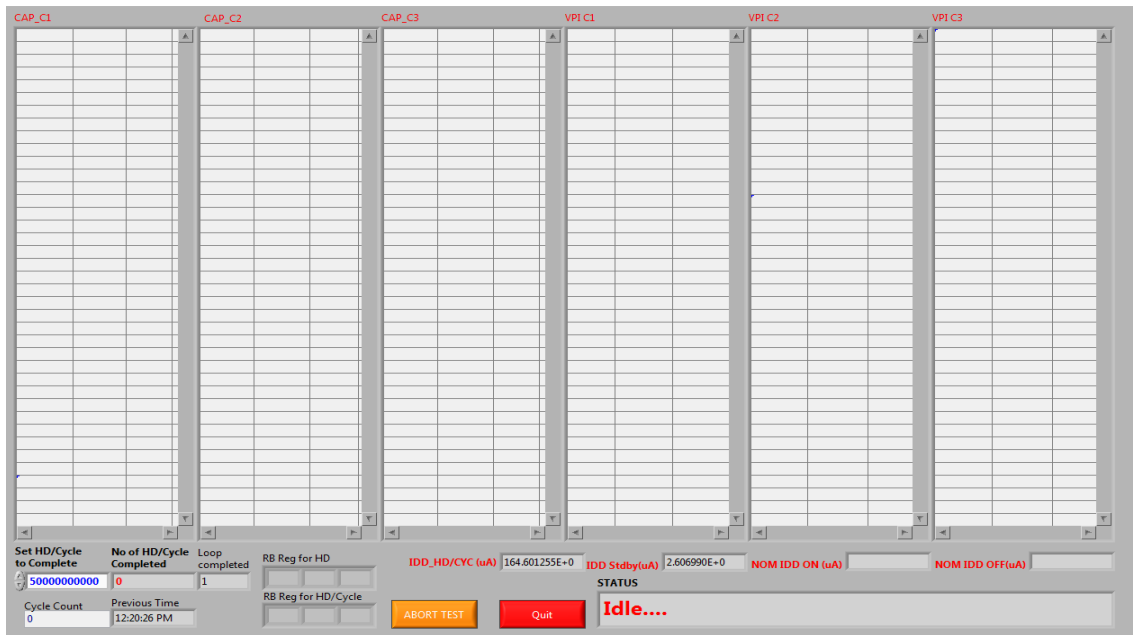

Fig. 8
- The front panel below (Fig. 8) indicates the CAP values for every read point.